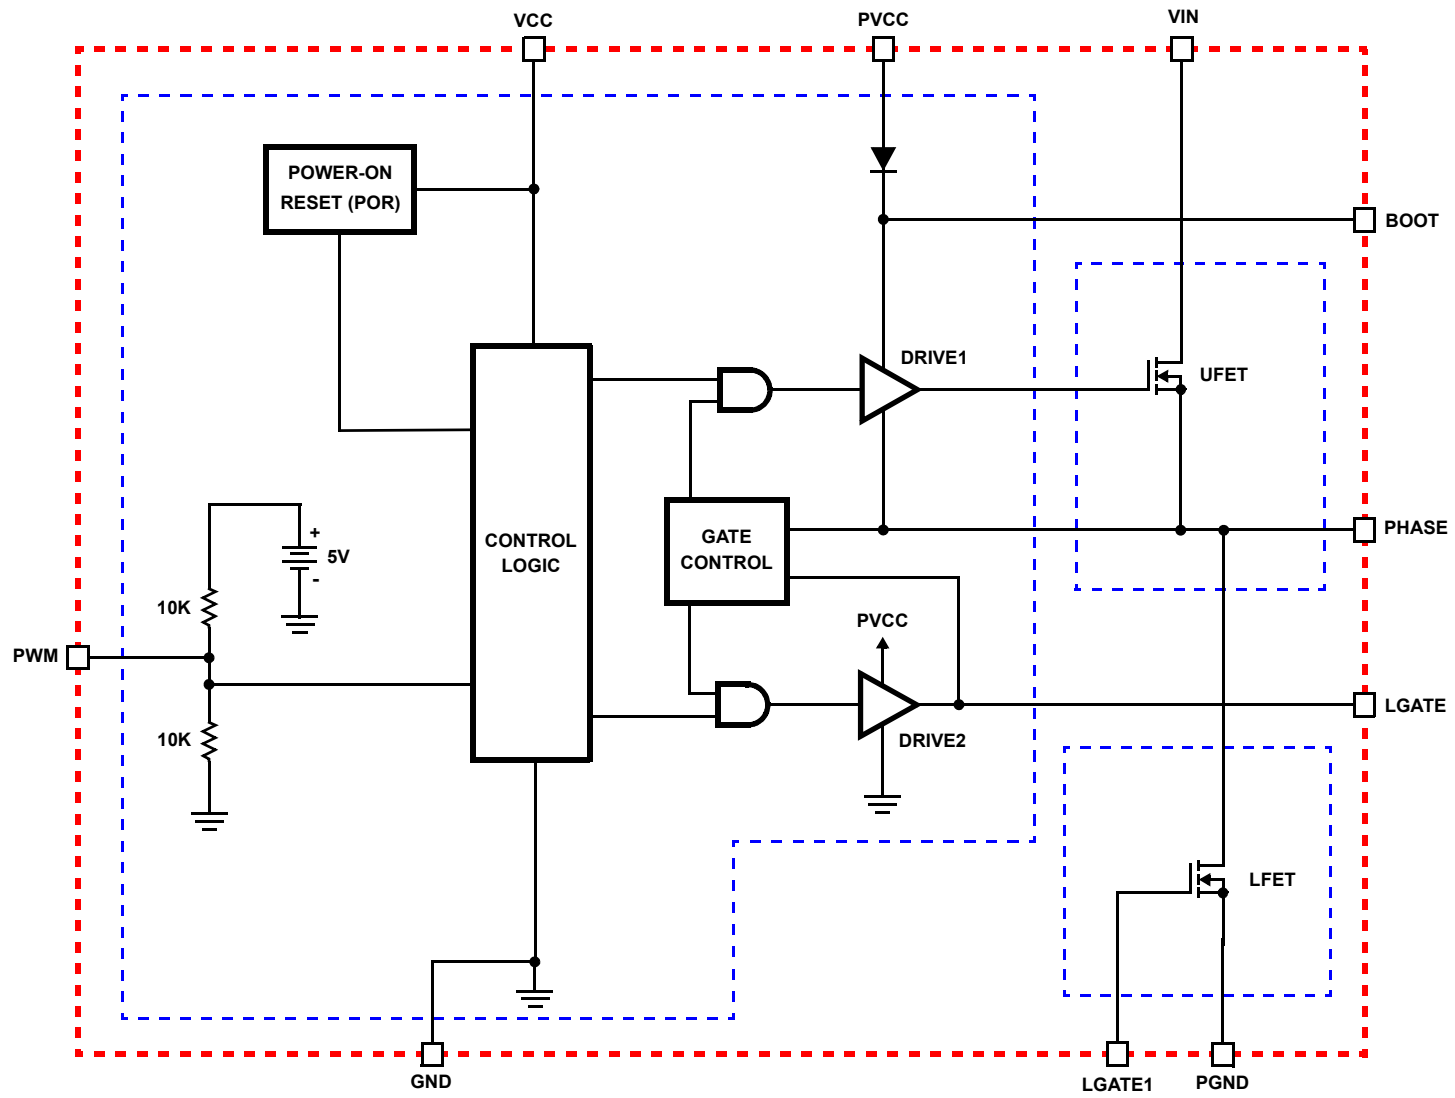

FIGURE 1. BLOCK DIAGRAM
**Electrical Specifications** Recommended Operating Conditions, Unless Otherwise Noted. Refer to Figures 1, 2 and 3